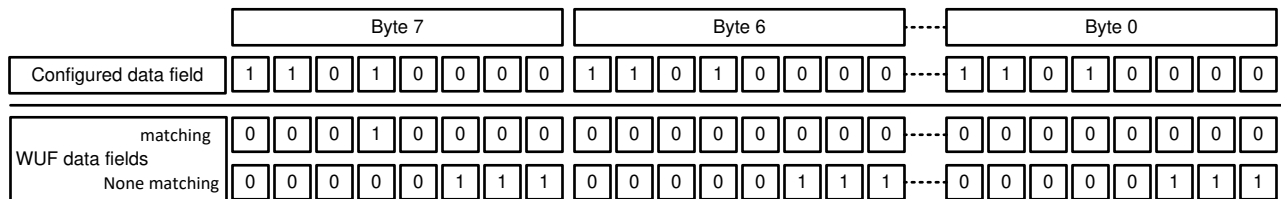

Figure 10-19. Data Field Validation for WUF Example
When the Data mask is enabled via the data mask bit, the data of the received frame must match the configured Data where at least one logic high (1) bit within the data field of the received frame matches a logic high (1) of the data field within the configured data. The relevant bit positions are determined by the configured Data in 8'h39 through 8'h40 and enabled by Data mask enable in 8'h38[0]. An example of a matching and non-matching Data is shown in Figure 10-19